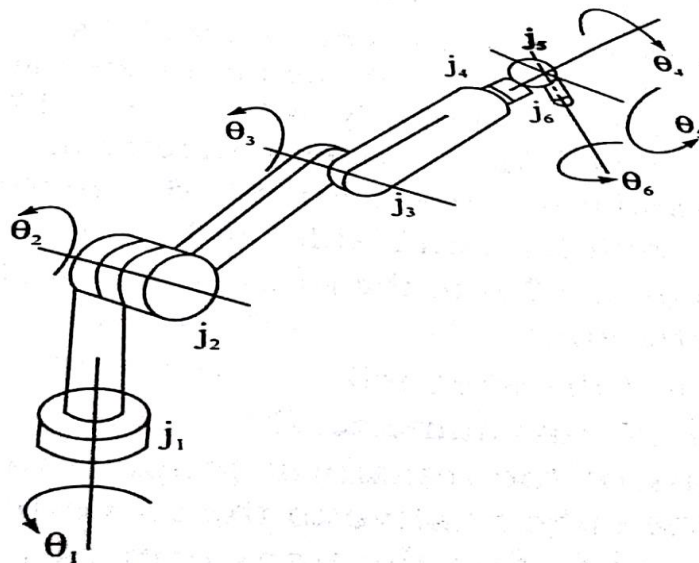

Figure 1. 6-DOF Robot manipulator
- (c) Consider 6-DOF Robot manipulator shown in figure 1. Using D-H notation **07**